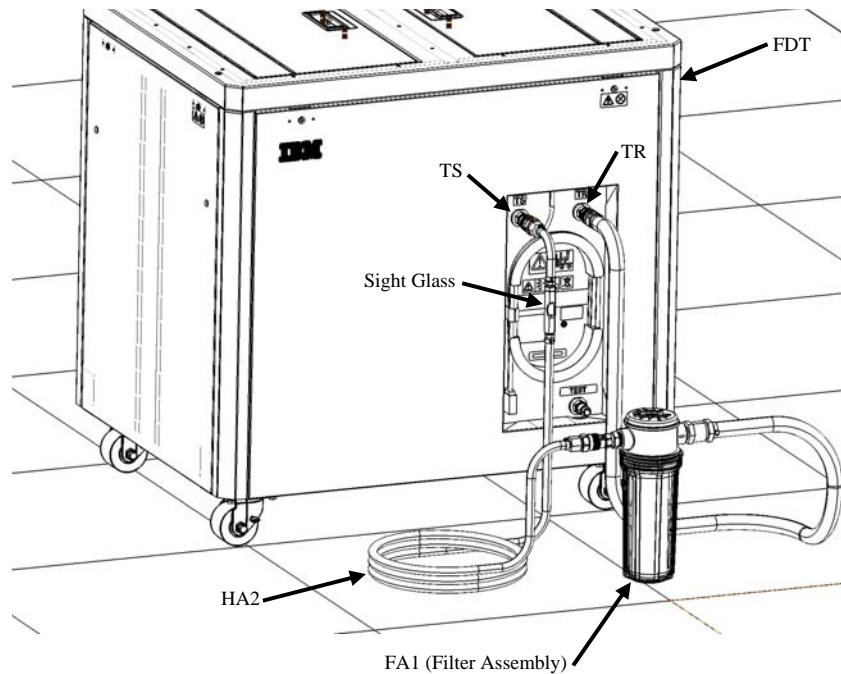

Figure 3: Filter assembly and HA2 connected to FDT
21. Disconnect the ends of HA1 from TS and FA1. Connect the sight glass end of HA2 to TS and the non sight glass end of HA2 to FA1 as shown in figure 3.